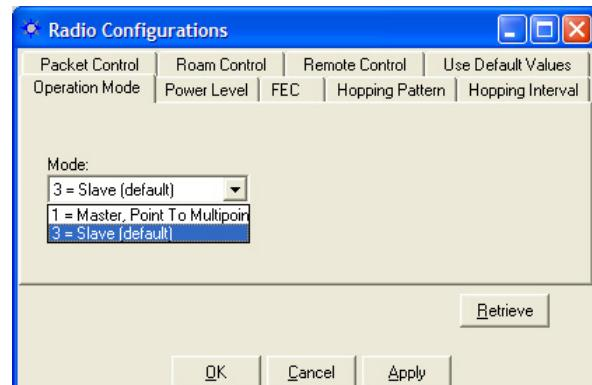

Figure 67: Radio Configuration – Operation Mode
6. On the *Operation Mode* tab, select the mode (see Figure 67):